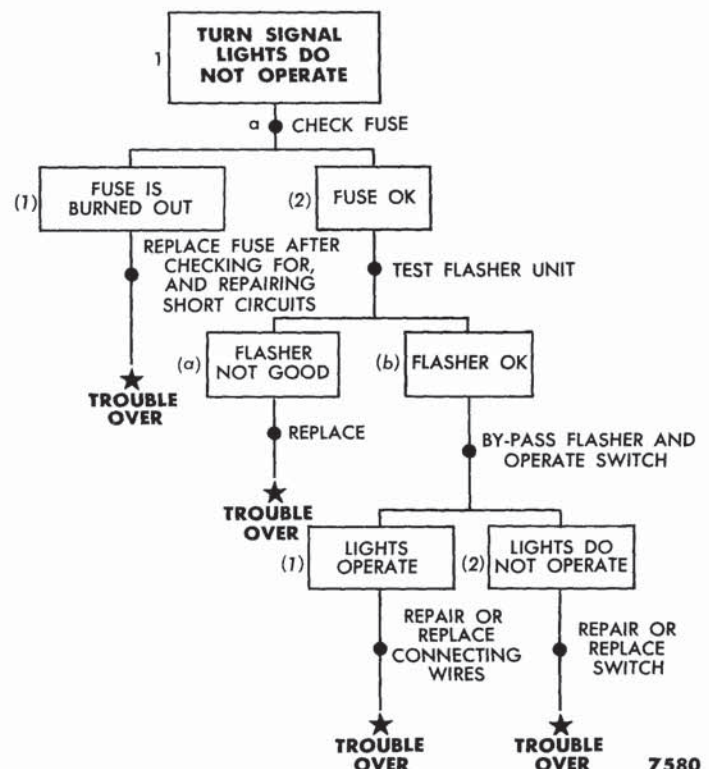

Fig. 2—Turn Signal Trouble Shooting—"Road Map"
(1) **TURN SIGNAL LIGHTS DO NOT OPERATE.** The fuse may be blown, the flasher may be defective or the switch and wiring may be defective or the lights may be burned out. Figure 2 shows a "road map" for this symptom. Before any testing is done, turn the ignition switch key to the "ACC" position.